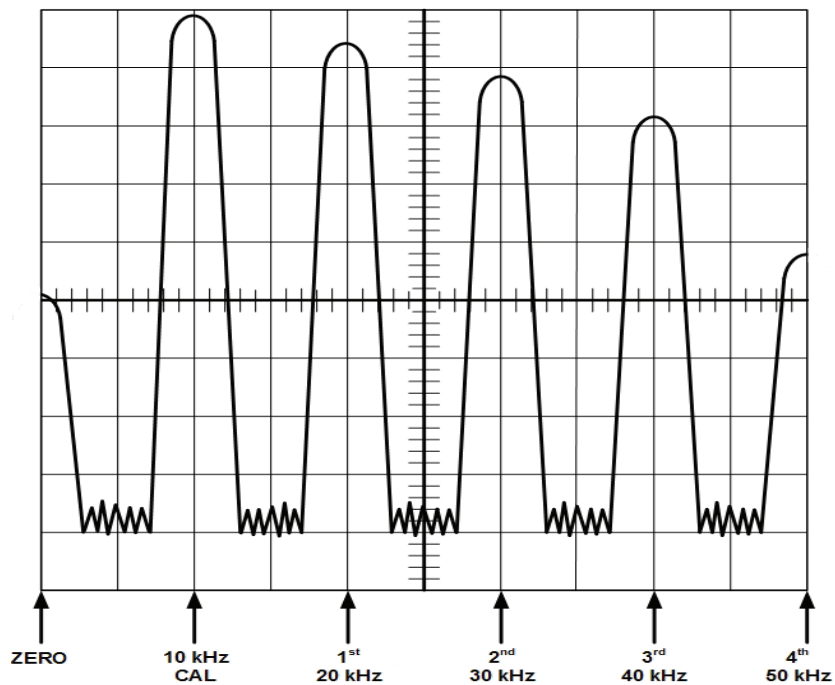

Figure 2. Display accuracy.
(1) Position controls as listed in (a) through (f) below:
(2) The **10 kHz CAL** signal and its harmonics should be repetitively swept and appear on display as shown in figure 2. Separation between zero response and 50 kHz harmonic will be 10 major divisions  $\pm$  1 minor division, or any two adjacent signals will be 2 major divisions  $\pm$  0.2 minor division.